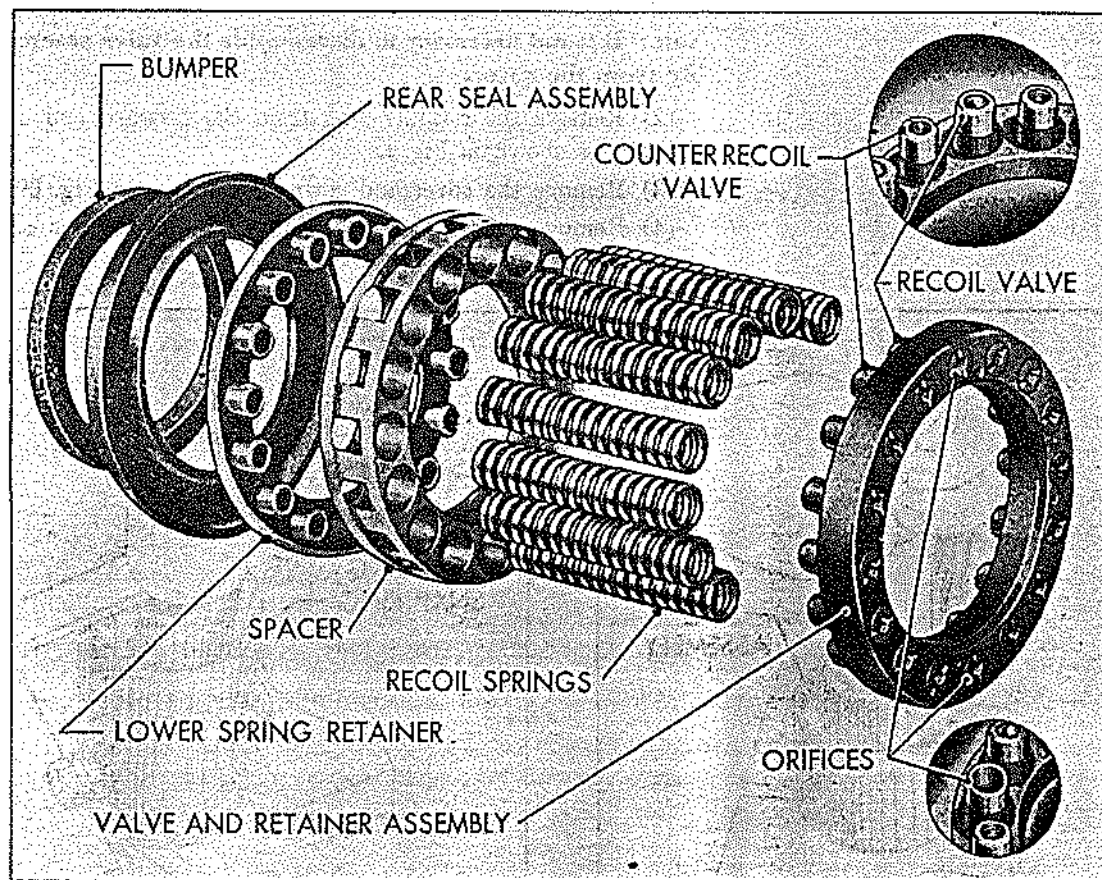

Figure 72
(6) Slide out the valve and retainer assembly which is shown in Fig. 72, and drain off the remaining oil.
(7) Remove the recoil springs, the spacer, and the lower spring retainer shown in Fig. 72.
(8) Remove the rear seal assembly, also shown in Fig. 72.
(9) The bumper (see Fig. 72) may now be removed.
Note: In case the recoil and counterrecoil valve assemblies have been removed for replacement, reassemble them as shown in Fig. 72, taking care to alternate recoil valve assemblies and counterrecoil valve assemblies, and to place the two metering orifices opposite each other; i.e., 180° apart.